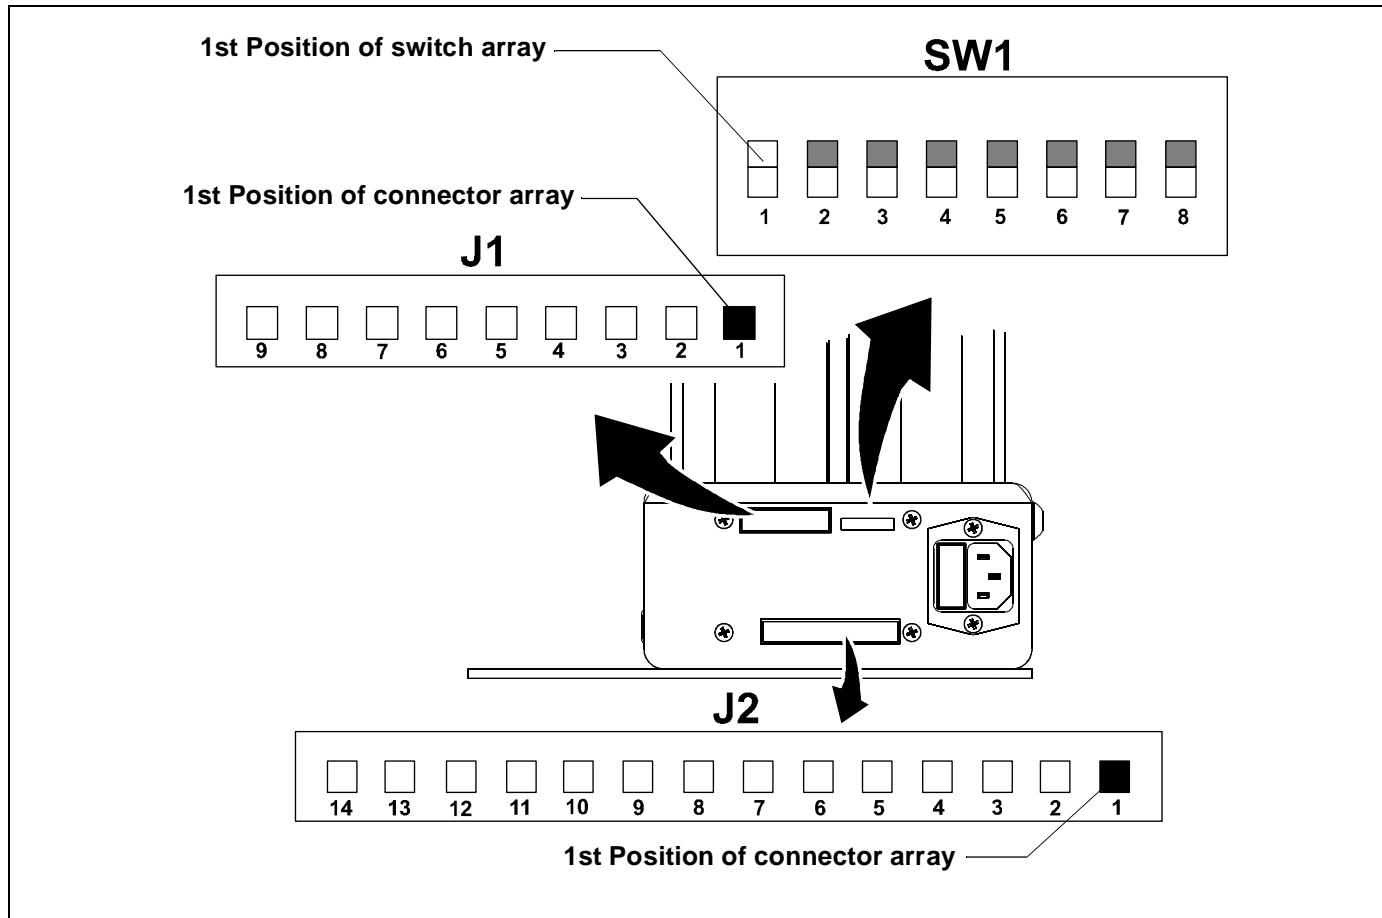
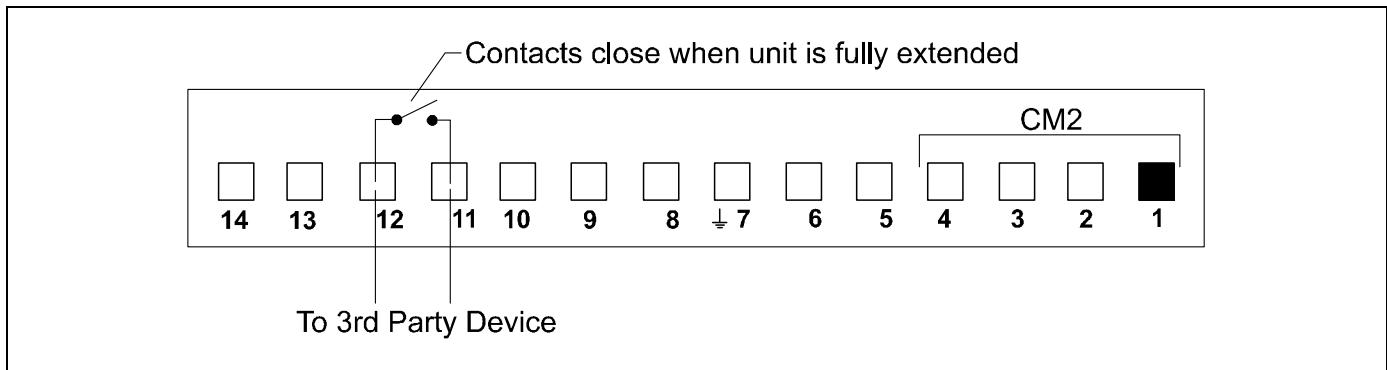
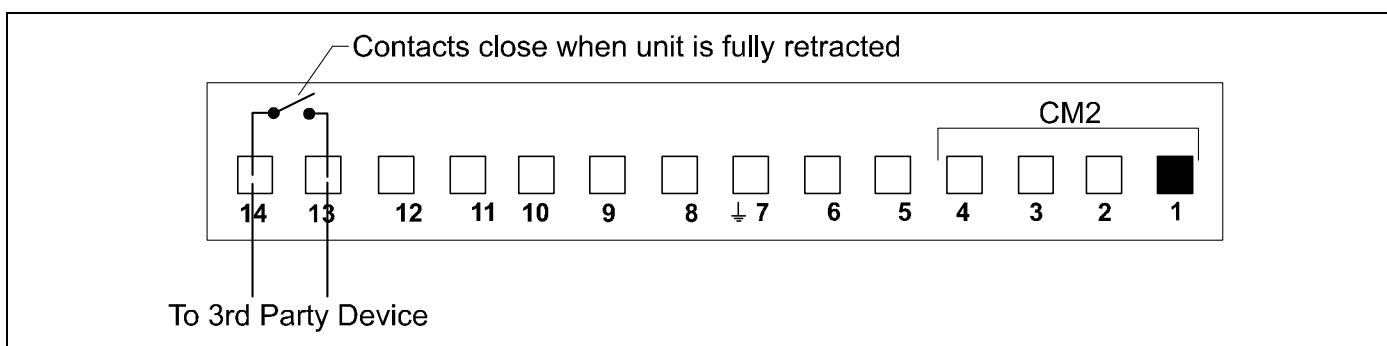

Figure 30
Figure 37
Figure 38
(See figure 30)
Using 9 pin Connector. (See figure 30) and (See figure 32)
Unit extends and stays extended when voltage from an external source is applied across pins 3 and 4 on connector J1. When voltage is removed unit retracts. (See figure 30) and (See figure 33)
**NOTE:** Using this input will force a complete UP/DOWN cycle of the unit. No other inputs, with the exception of error inputs, are available until the cycle has completed. (See figure 30) and (See figure 34)
(See figure 30) and (See figure 35)
(See figure 30) and (See figure 36)
(See figure 30) and (See figure 37)
(See figure 30) and (See figure 38)